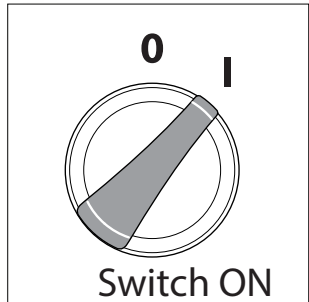
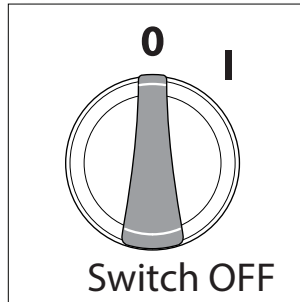

Fig. 12
Fig. 13
- Make sure the “ON/OFF” switch is in the “OFF” position. The power switch has international symbols for ‘on’ and ‘off’: On (|) (**Fig. 12**) Off (O) (**Fig. 13**).